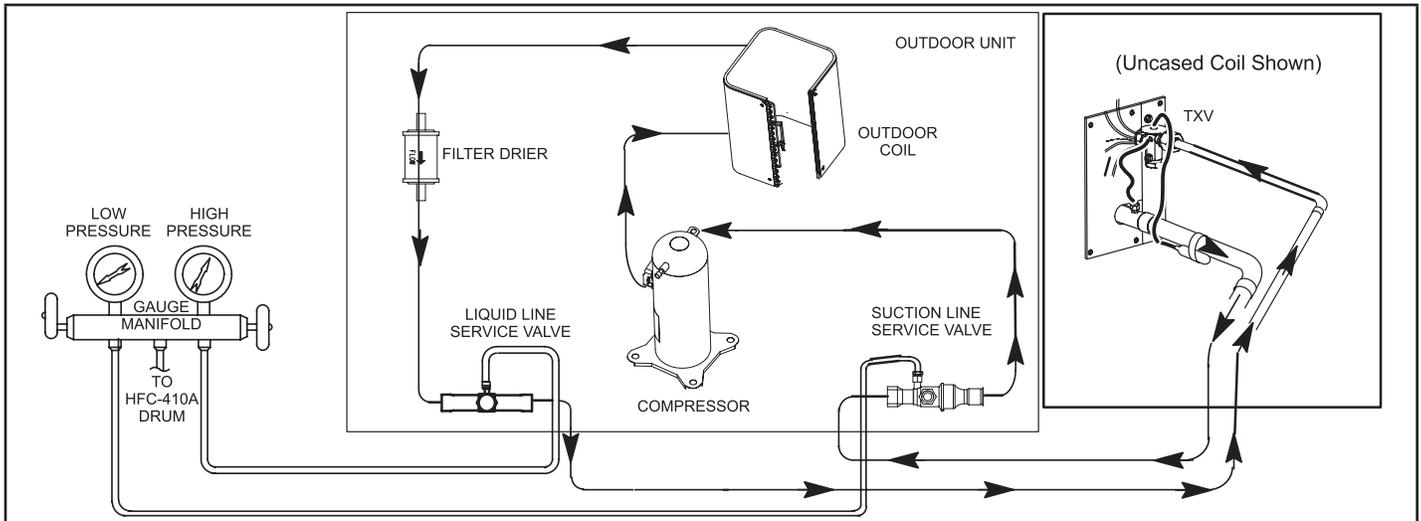

FIGURE 9
When checking the system charge, use a manifold gauge set that features low-loss anti-blow back fittings. See figure 9 for a typical manifold gauge connection setup.
- 4 - Replace the stem caps and secure finger tight, then tighten an additional one-sixth (1/6) of a turn as illustrated in figure 9.